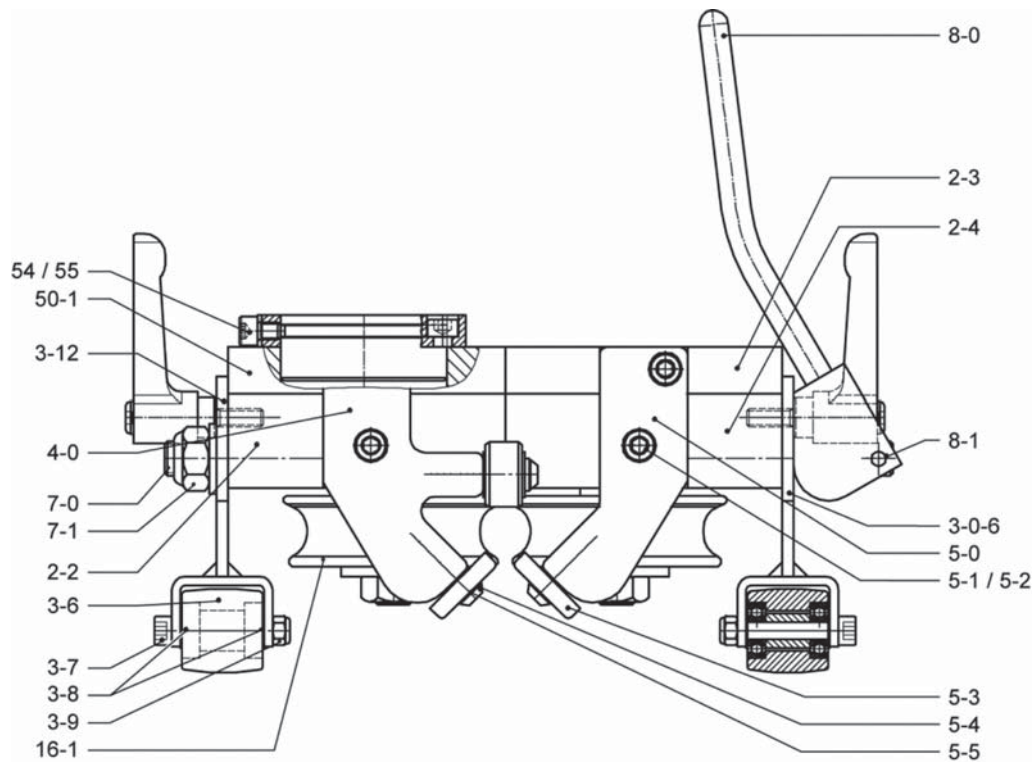

Figure 15
- Treat the bearings of the guide rollers (Figure 15, 3-6, 4-1, 5-3) with light machine oil depending on the demands applied.
- Oil the tension bars (Figure 15/16, 7-0) in the area of the eccentric shaft so that a light film of oil remains visible on the surface.
The roller holder for the front drive side (Figure 15, 4-0) and roller holder for the non-driving side (Figure 15, 5-0) must always be removed.
With a radius of less than 2 m, the roller holder for the front drive unit side (Figure 15, 4-0) and roller holder for the non-driving side (Figure 15, 5-0) must always be removed.
Roller set L must be used and mounted to zip double skin translucent sheets. Therefore the roller holders for the front drive side (Figure 15,
4-0) and roller holders for the non-driving side (Figure 15, 5-0) must always be removed.